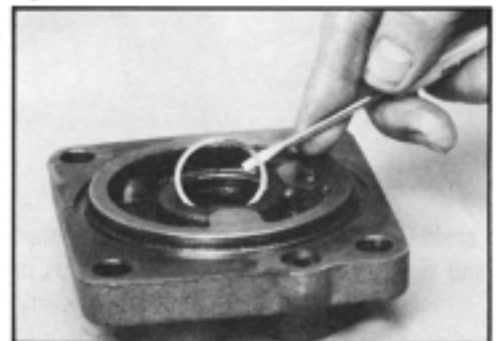

Figure 74
28. Remove retaining ring (22) from adaptor (18). SEE FIGURE 74. Remove and discard seal (21) and backup washer (20). SEE FIGURE 75.